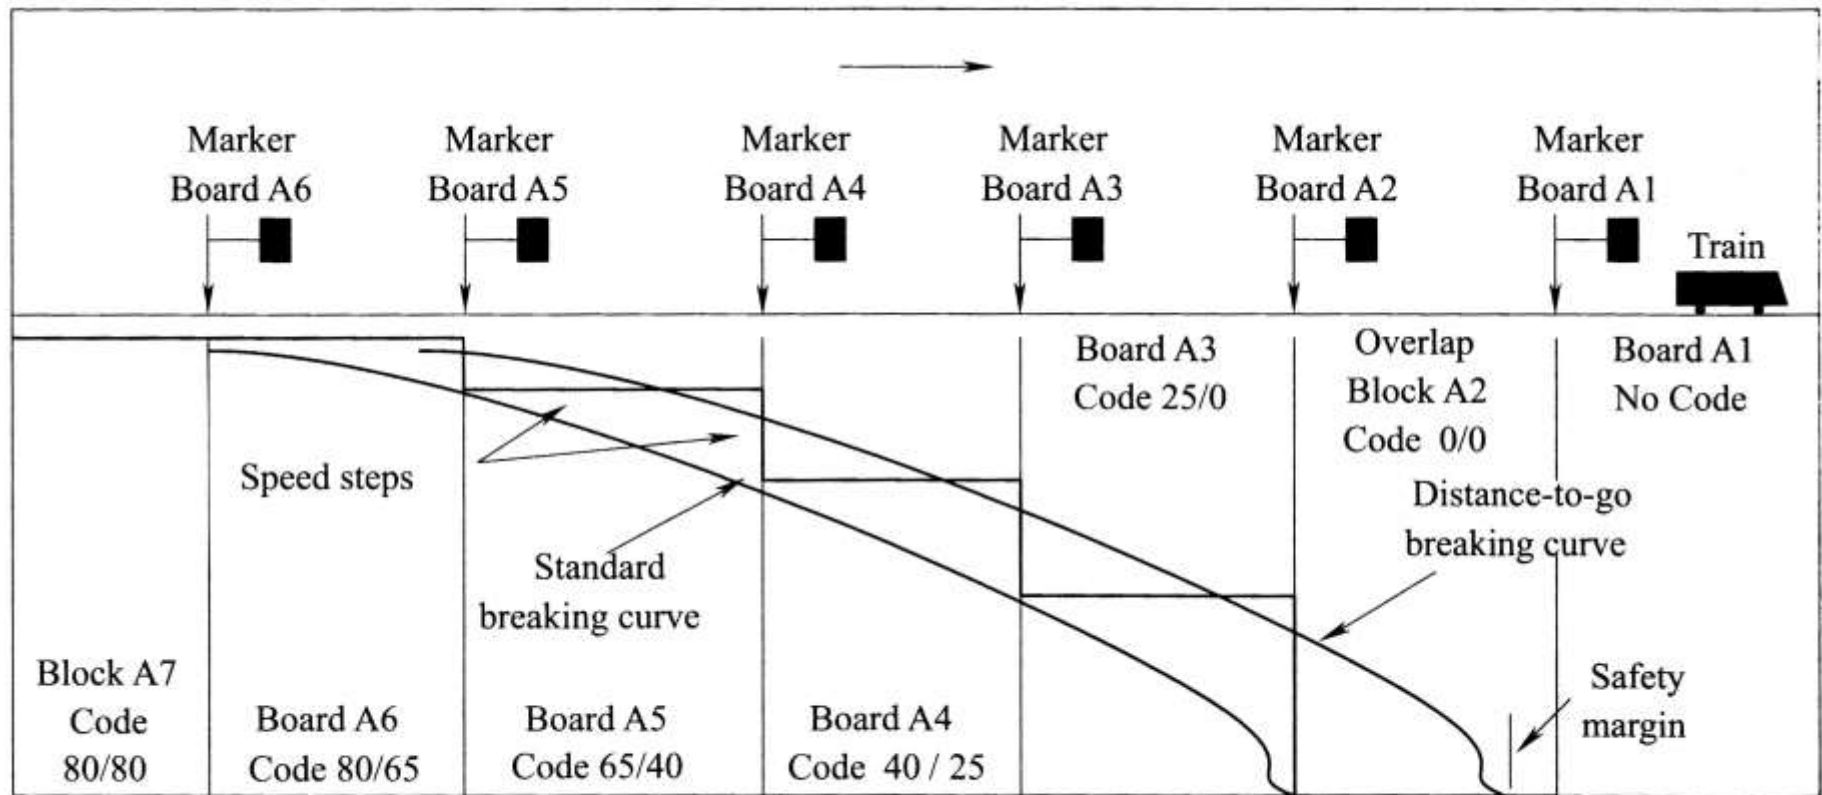

Fig. 6.4 Diagram of distance-to-go
- ◆ In this diagram (**Fig. 6.4**), the train in block A1 causes a series of **speed reduction** steps behind it, so that if a following train enters block A6, it will get a reduced target speed.
- ◆ The **braking curve** is shown in Fig.6.4 in orange as the “standard” braking curve.
- In Fig 6.4 above, we can see the standard braking curve of the speed step system always remains inside the **profile** of the speed steps.
- ◆ The standard braking curve is shown in yellow in Fig 6.4 , and the profile of the speed steps is shown in orange.